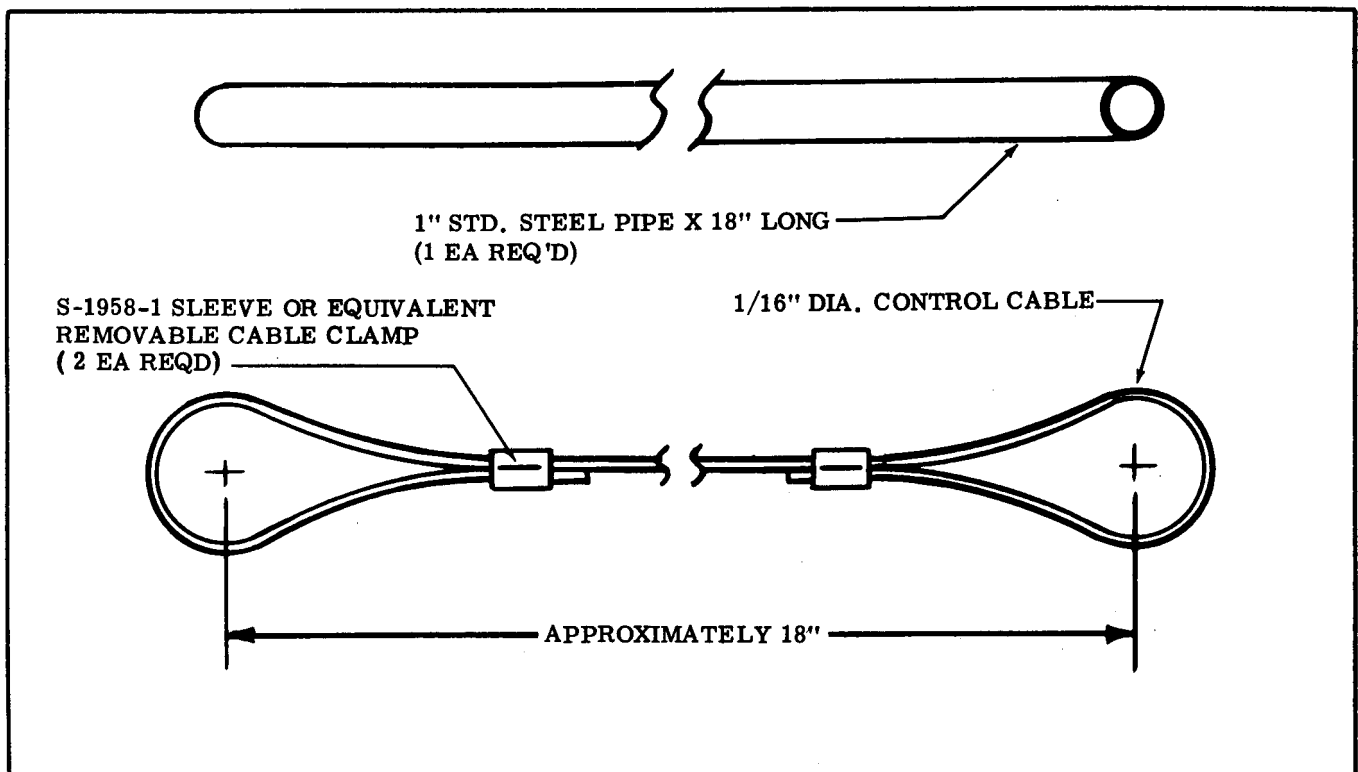

Figure 1. Inspection Aids.
5. Fabricate tools shown in figure 1.